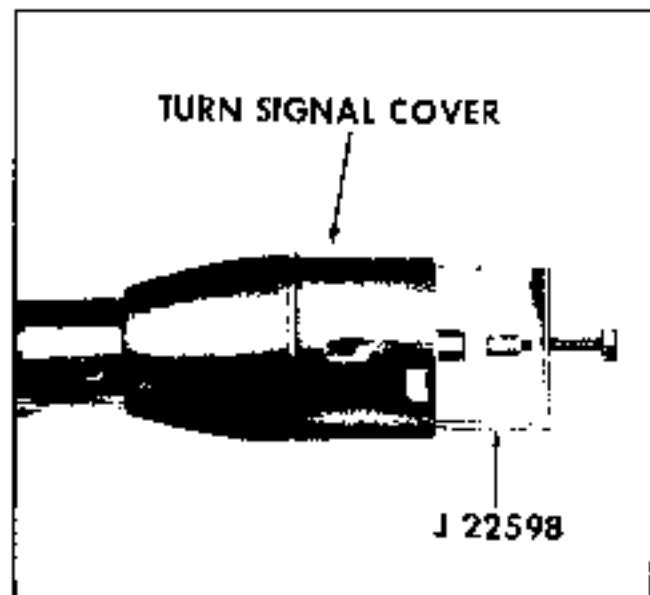

Fig. 9-9 Removing Turn Signal Switch Cover
4. Push in hazard flasher knob, remove knob and remove turn signal cover using tool J 22596 (Fig. 9-9).